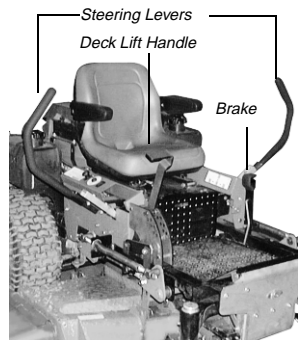

Figure. 3
3. **Left and Right Steering Levers:** (See Figure 3.) These hinged levers open out to the side in the neutral position to permit the operator to be seated or to leave the mower's seat. The operator, when seated, can pull the levers up to the operating position, a comfortable forearm's length away. These levers control all of the movements of the mower. Pushing both levers forward causes the mower to move forward. Pulling both levers back causes the mower to move backward. Pushing one lever ahead of the other lever causes the traction wheel on the side where the lever is ahead to rotate faster than the other traction wheel, making the mower turn toward the side where the lever is behind. When one lever is pushed forward and the other lever pulled back the same
5. **Parking Brake:** (See Figure 3.) Located on the left side of the traction unit. The handle is an overcenter lever which applies the internal drum-type brake on each drive wheel when the handle is pulled to the rear. The brake must be engaged in order to start the engine.
6. **Deck Lift Handle:** (See Figure 3.) Located on the right front corner of the mowing deck. To raise the mowing deck to the transport position, the lever is pulled to the rear and moved inward to lock into a stop for transport. To lower the mowing deck, raise